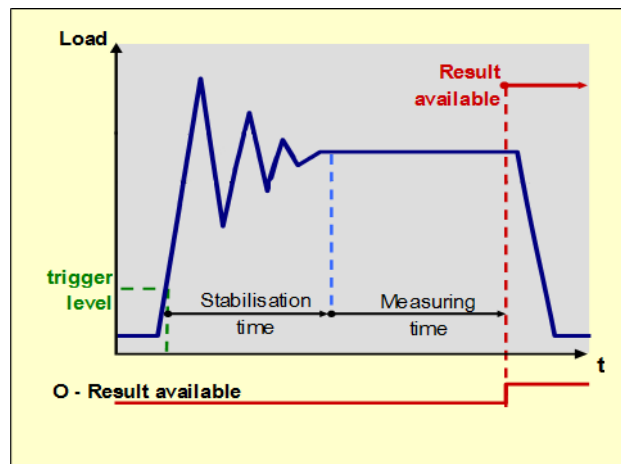

Fig. 6
- by a trigger level (Fig. 6) when the load cell signal reaches the specified value.